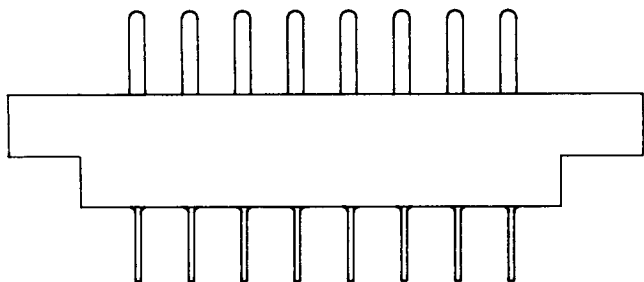

Fig. 2—KS-14554, L1 or L7 Connector
- (a) **KS-14554, L1:** The KS-14554, L1, connector (Fig. 2) has floating contacts with 2 holes on each end for mounting. The L1 is used with networks in the amplifiers of the A2 video equipment and the T3 and T4 television terminals to provide connections for the J44104R vacuum tube test set when testing vacuum tubes.
- (d) **KS-14554, L7:** The KS-14554, L7, connector (Fig. 2) has fixed contacts.